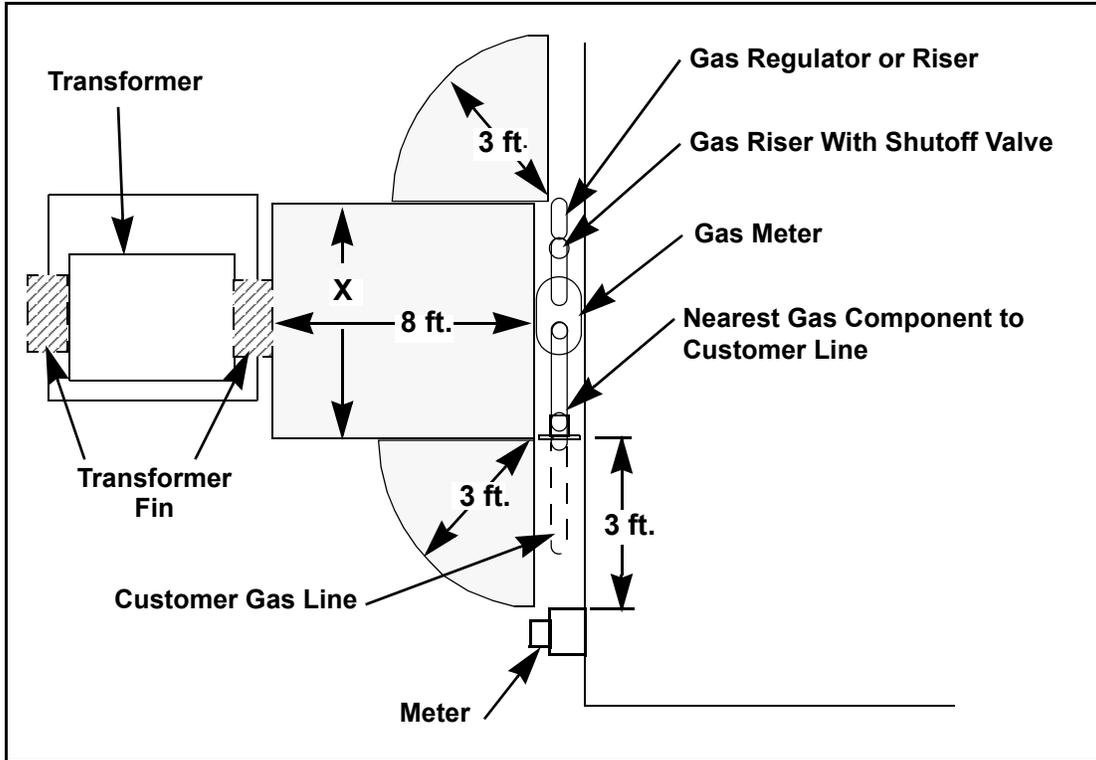
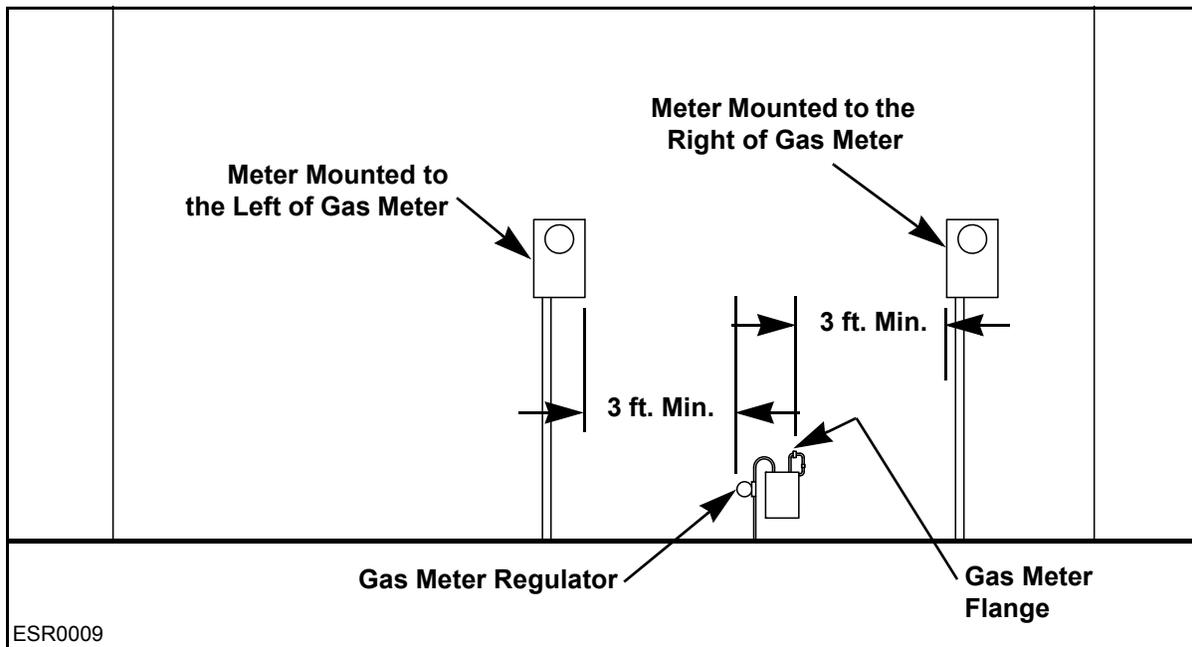

Figure 5-14: Separation of Electrical Equipment and a Meter from a Gas Meter Set
Figure 5-15: Separation of a Meter from a Gas Meter Regulator and Gas Meter Flange
Figure 5-14 and **Figure 5-15** show the separation requirements between electrical equipment and a meter and a gas meter set.
- The length of the gas meter set—dimension X in **Figure 5-14**—varies with the number of meters and associated equipment.